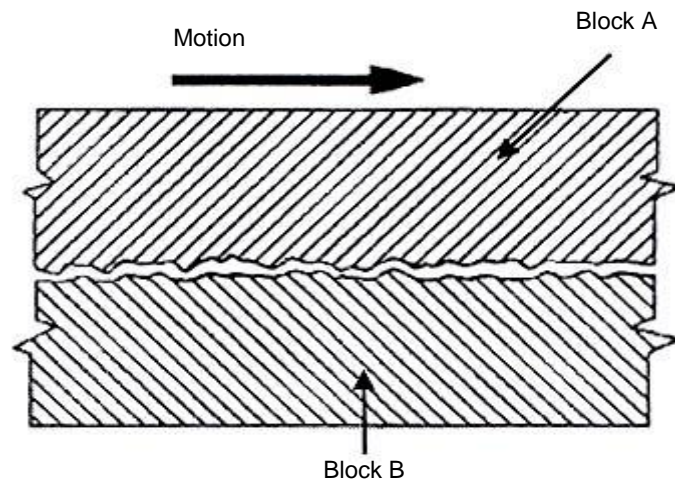

FIG 3.
- As can be seen in Fig 3, the high points of one surface interlock with the low points of the other. When force is applied to overcome the friction, i.e. to cause one part to move across the other, when there is insufficient lubrication, the high points of both surfaces will break off. In other words, wear takes place.